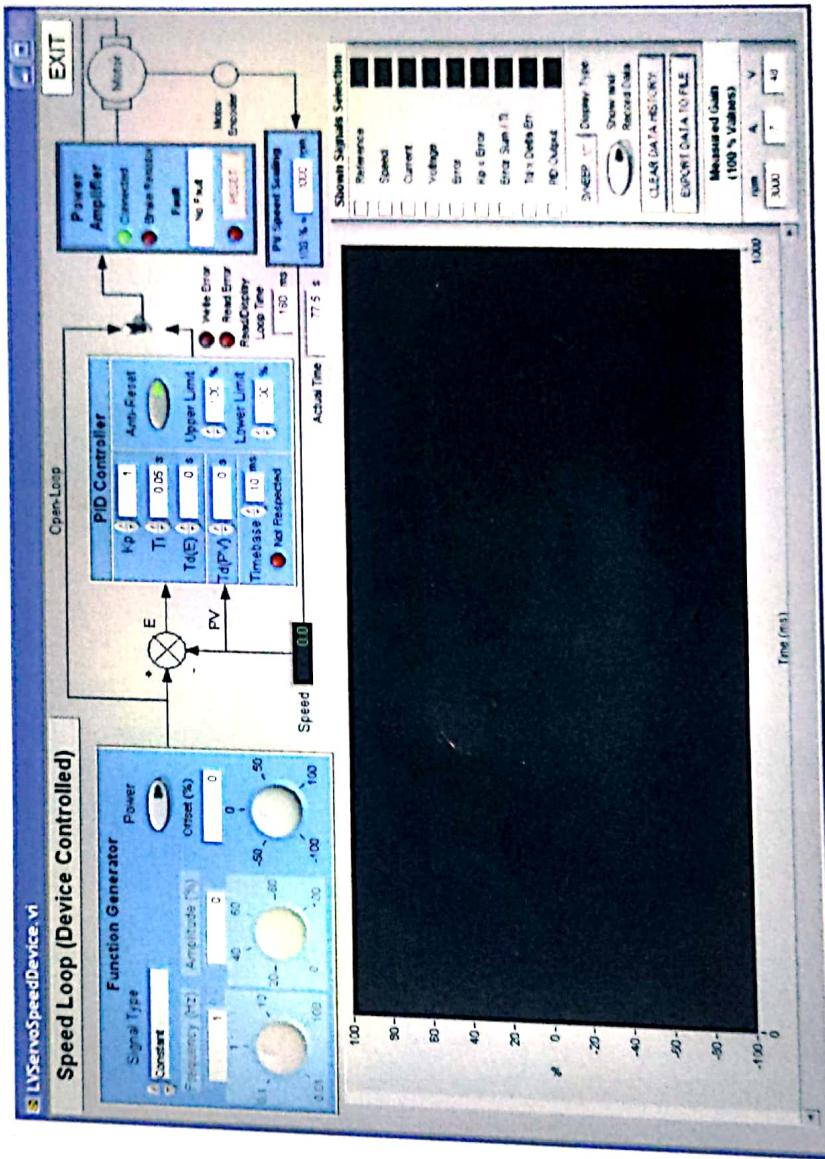
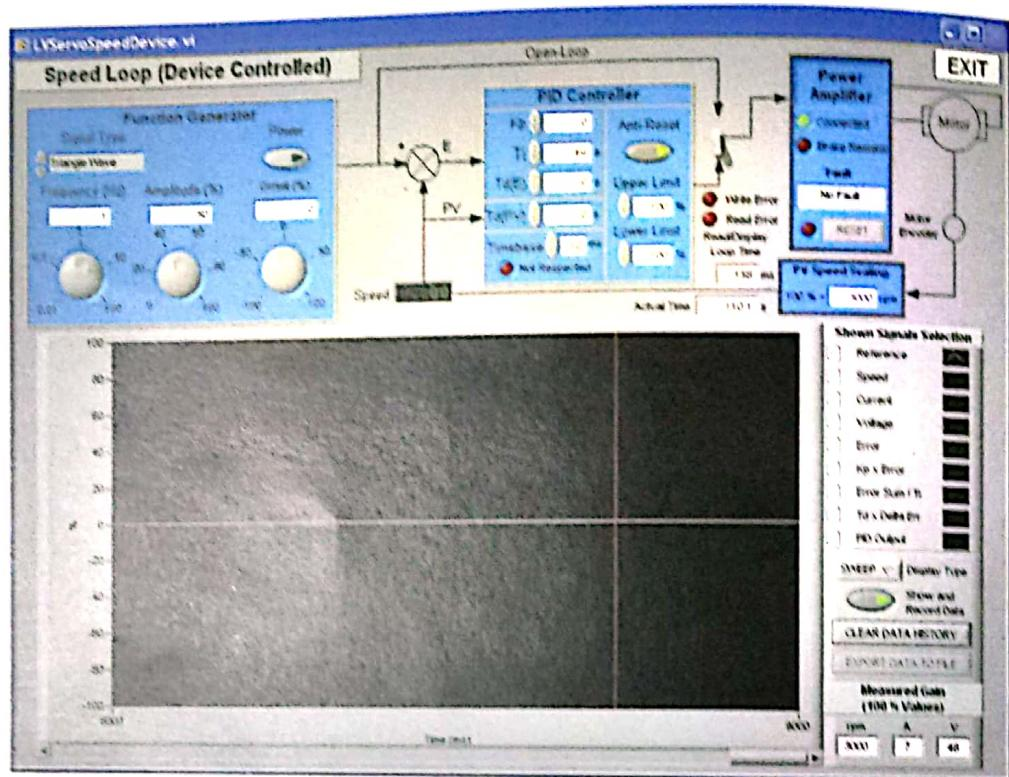

Figure 9. Default speed-control screen.
Figure 10. Modified speed-control screen settings.
The default speed-control screen appears as shown in Figure 9. Notice that only one encoder can be used in speed-control mode, i.e., the motor shaft incremental encoder.
12. Modify the settings shown in the default screen (Figure 9) to those shown in Figure 10. These modified settings are summarized in Table 1.